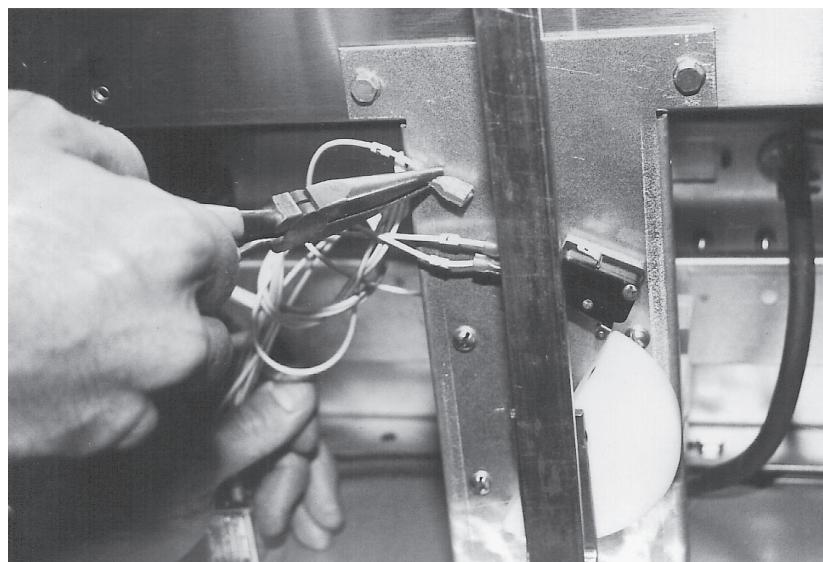

**Fig. 65**
2. With a  $\frac{1}{2}$ " wrench, remove the nut that attaches the lift rod to the lift bar. (Fig. 65)
3. With a  $\frac{5}{16}$ " socket, remove (6) screws from the rod mechanism holding bracket. (Fig. 65)